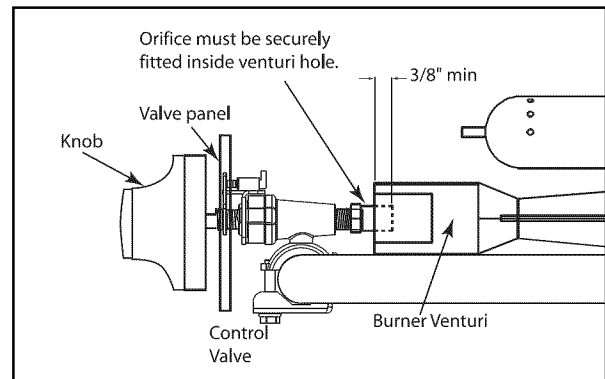

Fig. 66
*When replacing grill burners or orifices following cleaning, confirm orifice penetration into burner as shown in Fig. 66.*
**IT IS EXTREMELY IMPORTANT TO CENTER THE BURNER ON THE ORIFICE PROPERLY TO PREVENT A FIRE HAZARD OR EXPLOSION (FIG. 66).**